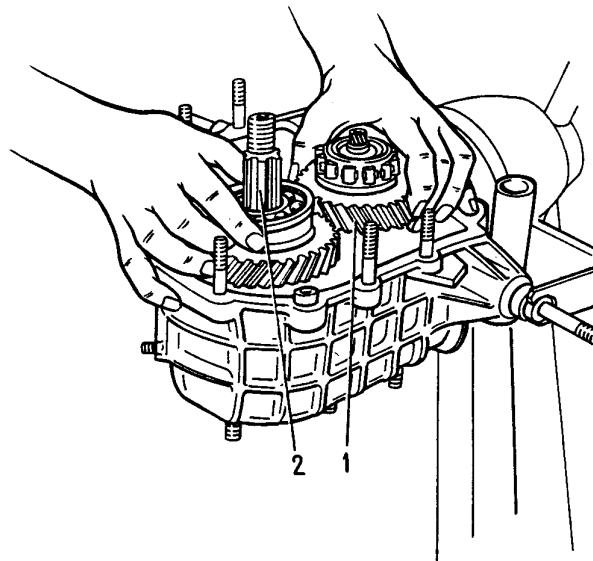

Fig. 3-47. Installation of Drive Shaft and Countershaft:
- the drive shaft and countershaft should be installed into the transfer case housing simultaneously (Fig. 3-47);